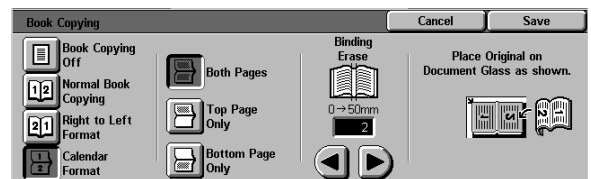

Figure 13: Book Copying screen with Calendar Format selected
- 2 Touch the **Calendar Format** button as in Figure 13.